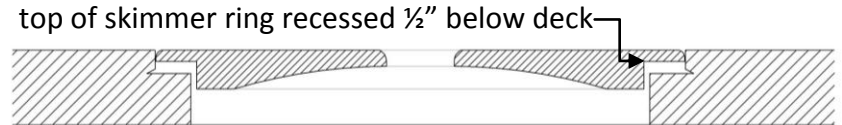
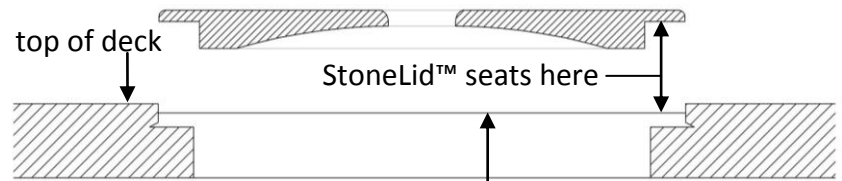

Fig. 3
Fig. 4
1. StoneLids™ containing NC in the model # (located on the underside of the lid), are designed to seat on top of the skimmer ring to be installed. (fig.3) The upper ring of the lid is exactly ½" in thickness; therefore the top of the skimmer ring must be set ½" below finished grade of the deck in order to attain a flush condition of the lid upon installation. (fig.4)